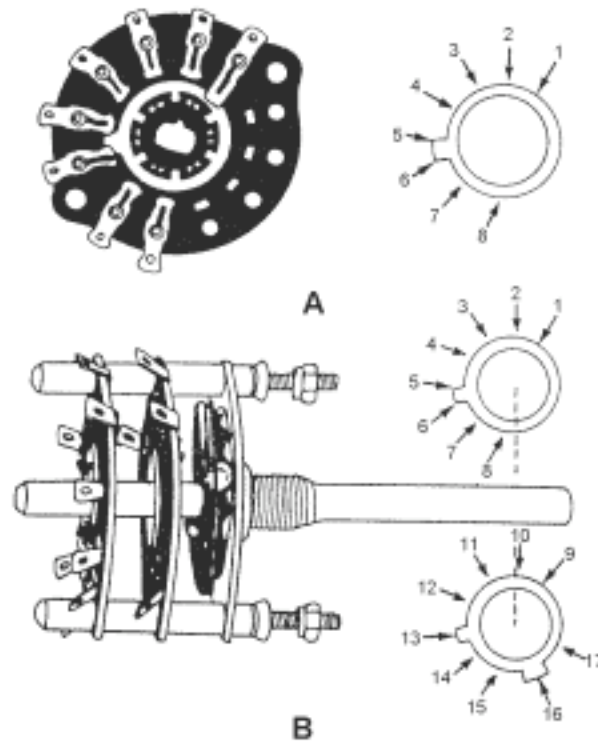

Figure 3-9.— Wafer switch.
Figure 3-9(A) shows one wafer of a wafer switch and its schematic symbol. Contact 1 is the point at which current enters the wafer. It is always connected to the movable portion of the wafer. With the wafer in the position shown, contact 1 is connected to both contact 5 and 6 through the movable portion. If the movable portion was rotated slightly clockwise, contact 1 would only be connected to contact 5. This arrangement is known as MAKE BEFORE BREAK because the switch makes a contact before breaking the old contact.
Figure 3-9(B) is an illustration of the entire switch and its schematic symbol. Since the switch has two wafers mechanically connected by the shaft of the switch, the shaft rotates the movable portion of both wafers at the same time. This is represented on the schematic symbol by the dotted line connecting the two wafers.
The upper wafer of the schematic symbol is the wafer closest to the control mechanism, and is identical to the wafer shown in figure 3-9(A). When switches have more than one wafer, the first wafer shown is always the wafer closest to the operating mechanism. The lower wafer on the schematic diagram is the wafer farthest away from the operating mechanism. Contact 9 of this wafer is connected to the movable portion and is the point at which current enters the wafer. In the position shown, contact 9 is connected to both contact 13 and 16. If the switch is rotated slightly clockwise, contact 9 would no longer be connected to contact 13. A further clockwise movement would connect contact 9 to contact 12. This arrangement is called BREAK BEFORE MAKE. Contact 9 will also be connected to contact 15 at the same time as it is connected to contact 12.